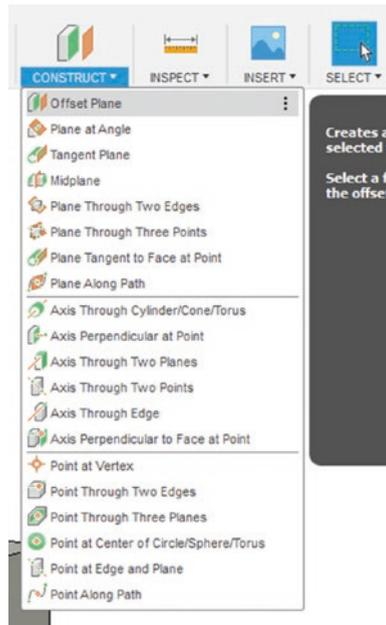

Figure 8-9. Select the “Offset Plane”
2. Select Construct ► Offset Plane. See Figure 8-9.